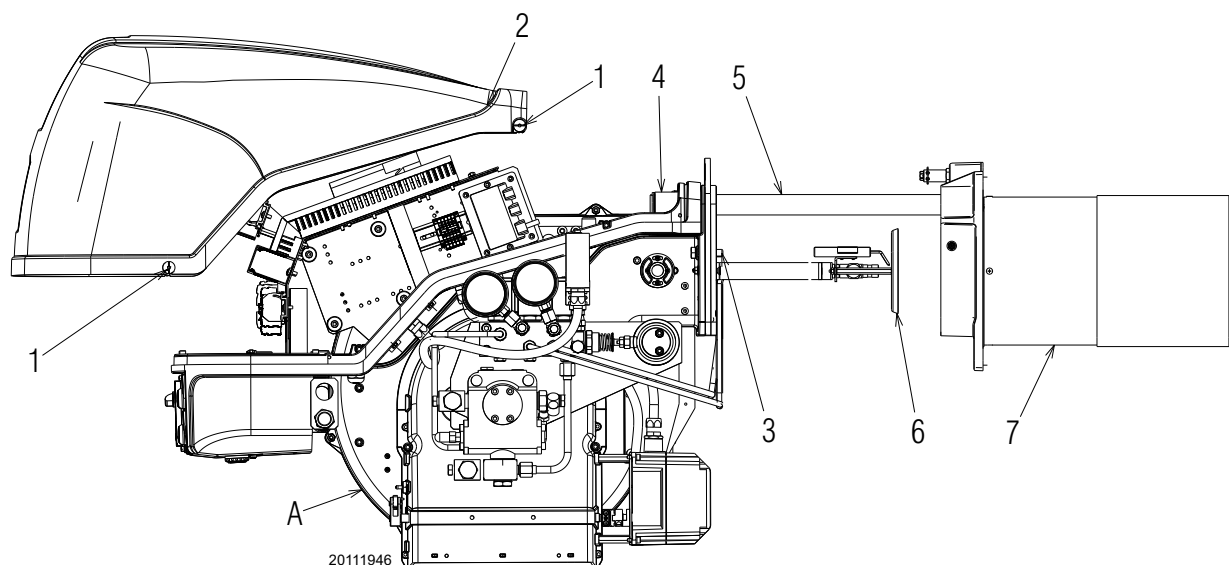

Fig. 46
- Loosen screws 1)(Fig. 46) and withdraw the cover 2);